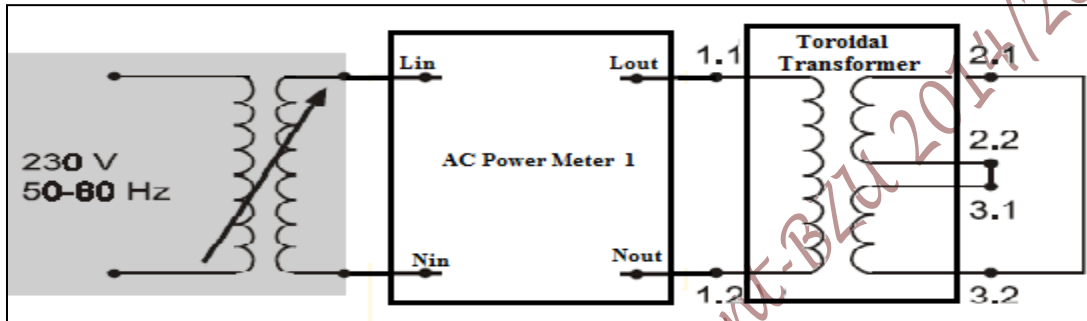

Figure 2.15 : Circuit for Measuring Short-circuit Voltage
1. Set up the circuit as shown in Figure 2.15